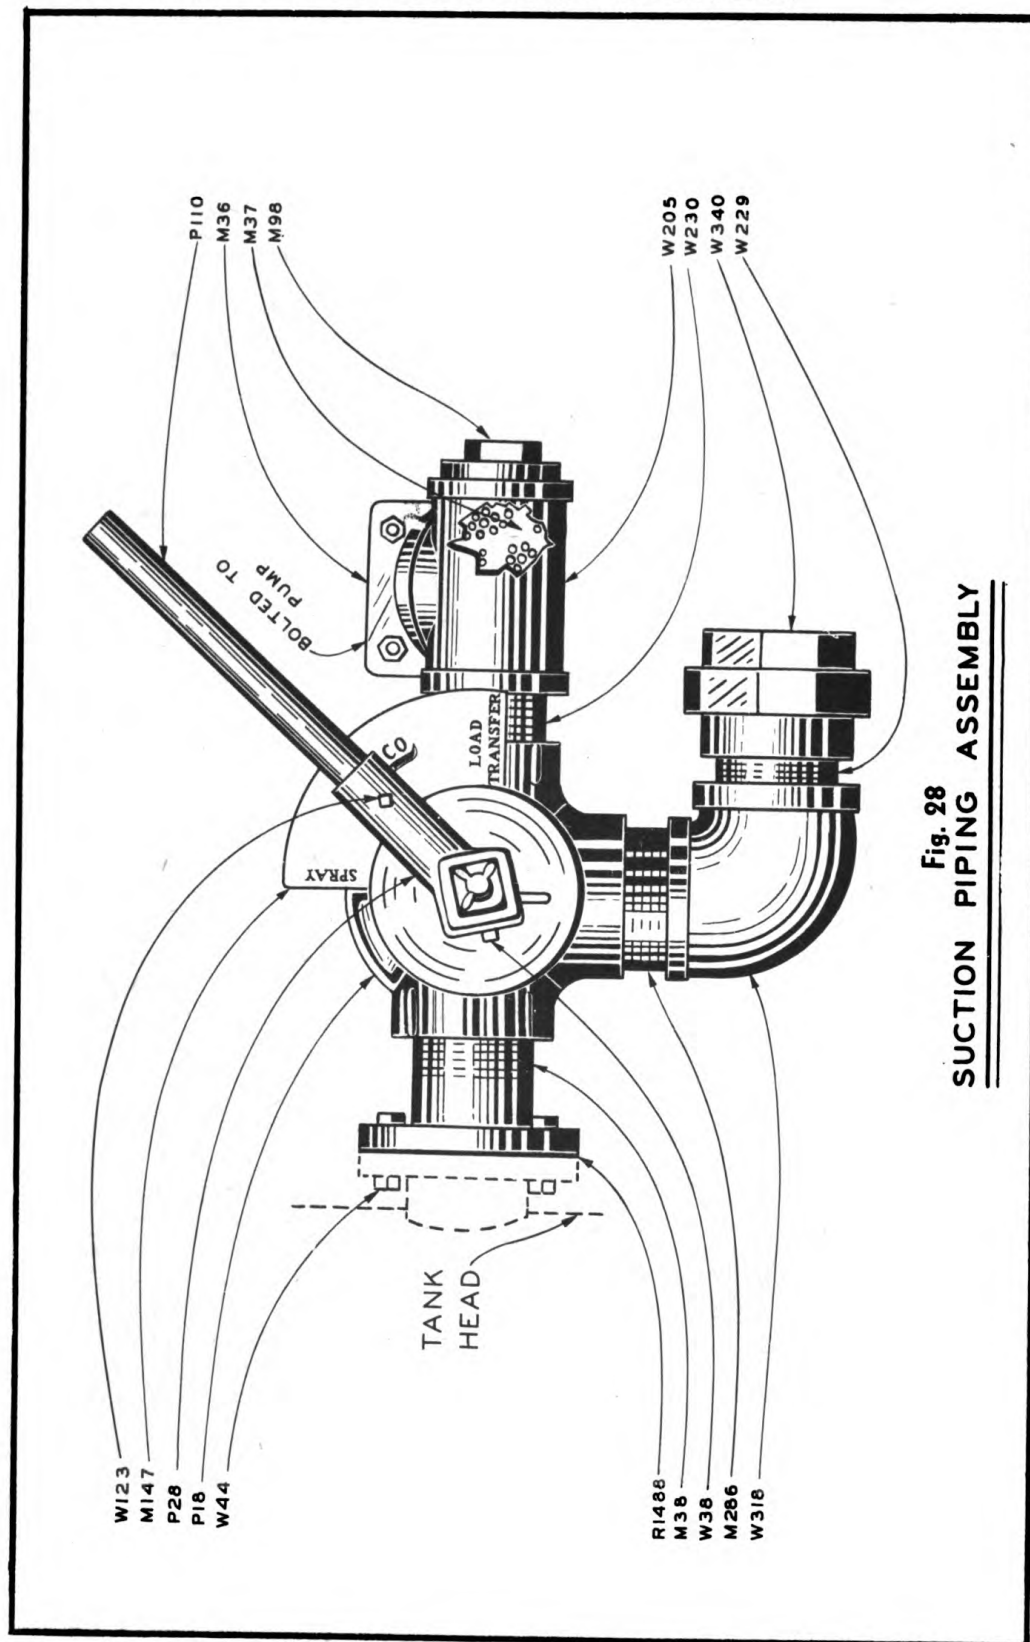

Fig. 28
**SUCTION PIPING (Fig. 28)**—Screw the W205 Tee onto the M36 Flanged Nipple and bolt the nipple to the pump suction outlet located at the side of the pump. Turn in by hand a W230 Nipple into the left side (facing pump) of the Tee and then a P18 Valve onto the other end of the Nipple. Draw the Valve up tight and leave the side outlet pointing downward. Turn an M38 Flanged Nipple into the end of the Valve on the opposite side from the Tee.